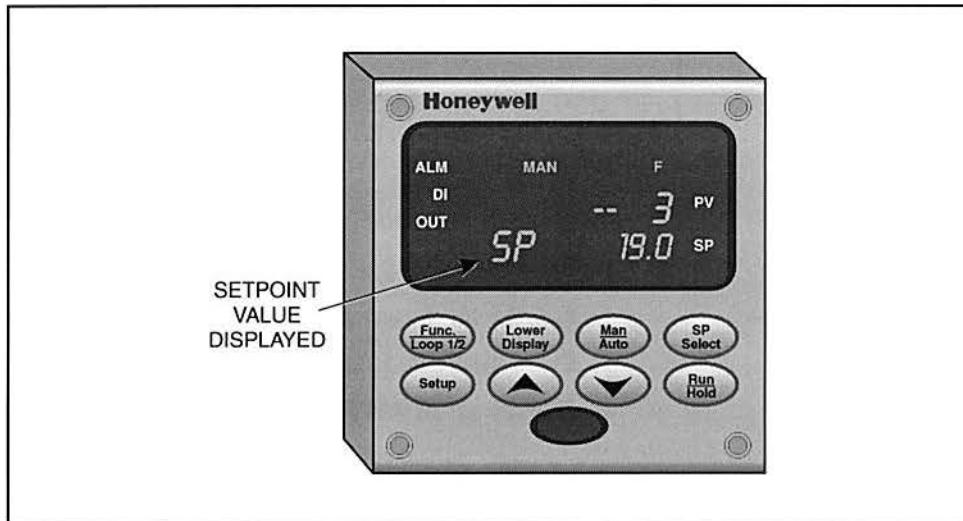

Figure 37. Lower Display Showing the Setpoint Value
- ❑ 6. Continue to press the **Lower Display** key until "SP" appears in the lower part of the display screen, as shown in figure 37.